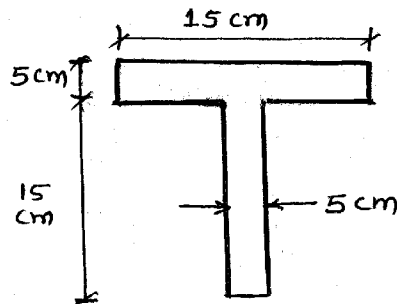

Fig. 5
- (b) Two wooden planks of 5 cm X 15 cm each connected together to form a cross section of a beam as shown in Figure 5. If a bending moment of 3400 N.m. is applied around the horizontal neutral axis. Find the stresses at the extreme fibers of the beam. Also calculate the tensile force on the cross section. 10